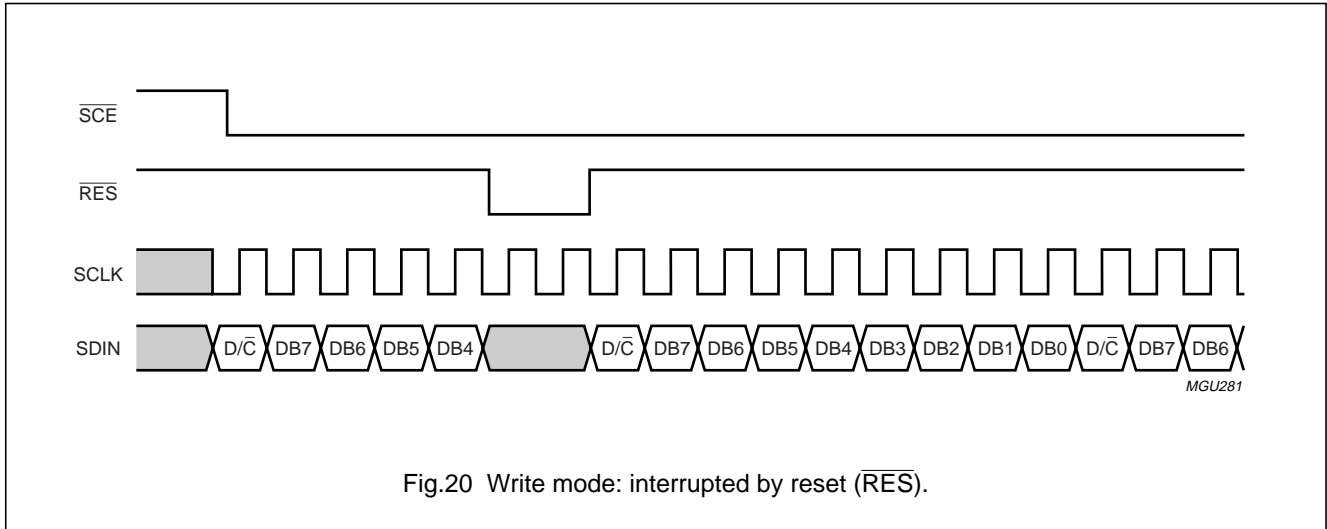

Fig.20 Write mode: interrupted by reset ( $\overline{RES}$ ).
- A reset pulse  $\overline{RES}$  interrupts the transmission. The data being written into the RAM may be corrupted. The registers are cleared. If  $\overline{SCE}$  is LOW after the rising edge of  $\overline{RES}$ , the serial interface is ready to receive the  $D/\overline{C}$  bit of a  $\overline{\text{command/data}}$  byte (see Fig.20).